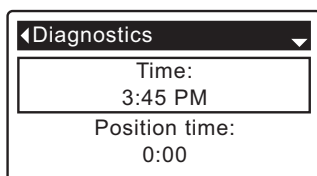

FIG. 79
8. Press the SELECT (O) button to display the Diagnostics screen (See Figure 79).